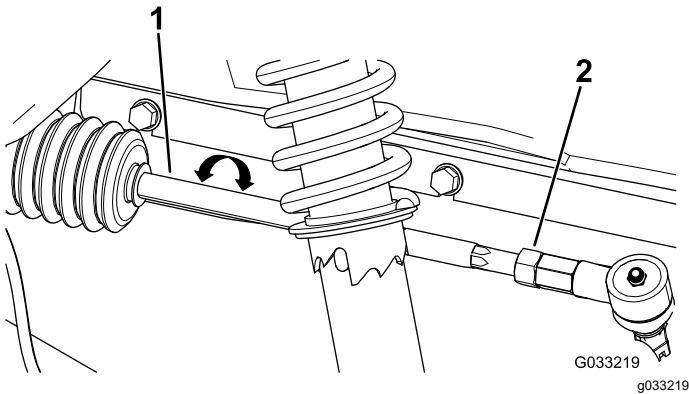

Figure 49
3. If the measurement does not fall within 0 to 6 mm (0 to 1/4 inch), loosen the jam nuts at the outer end of the tie rods (Figure 49).